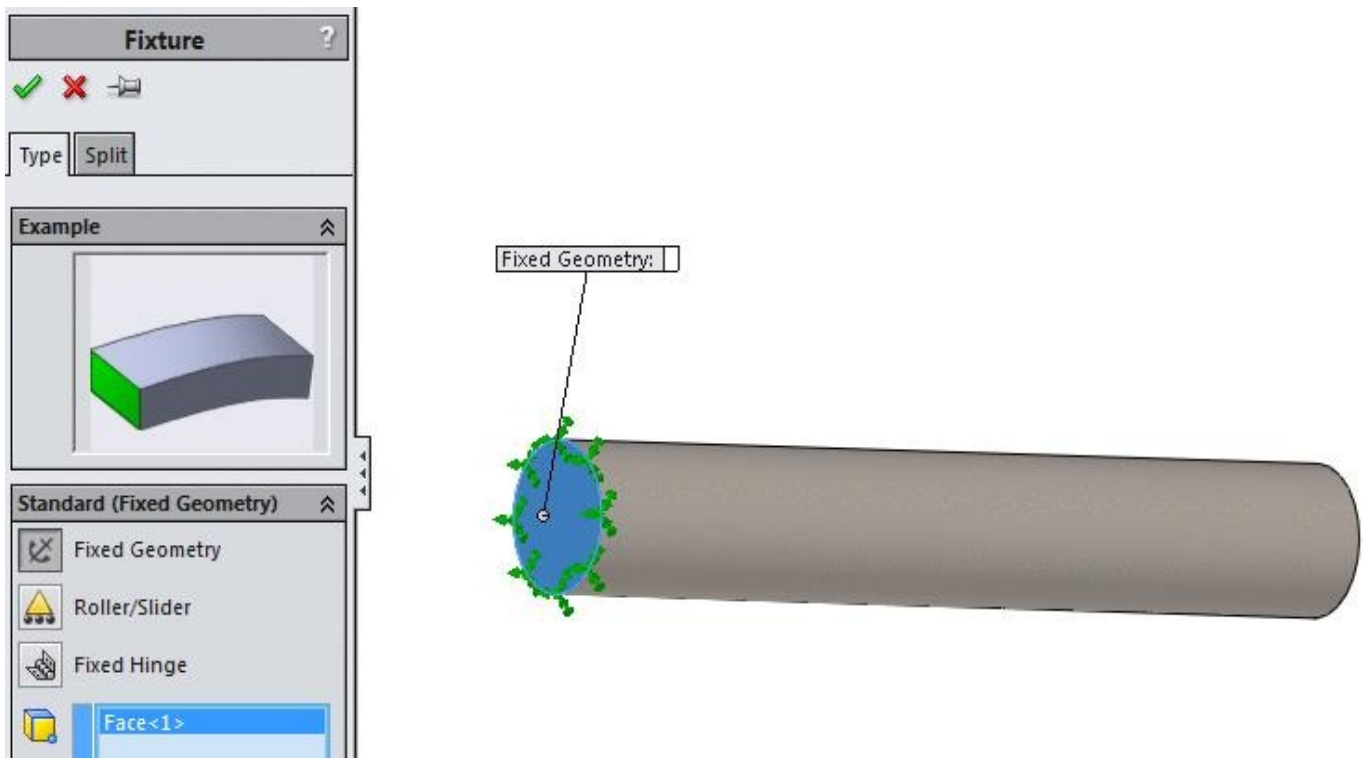

Figure-1. Face for fixture
- Select the face of the model as shown in Figure-1.